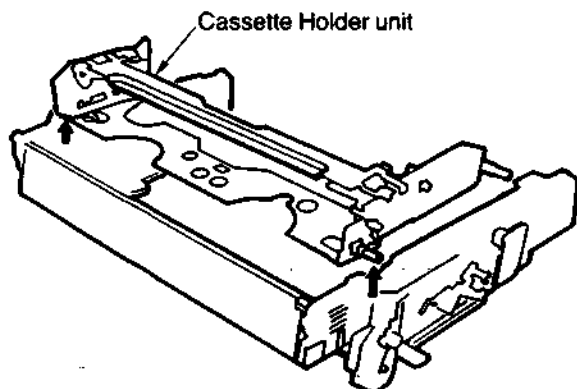

Fig. 4-19
4. Take out the cassette holder unit as shown in Fig. 4-19.
9. Reinstall the cassette holder unit in the reverse order of item 4, Fig. 4-19.